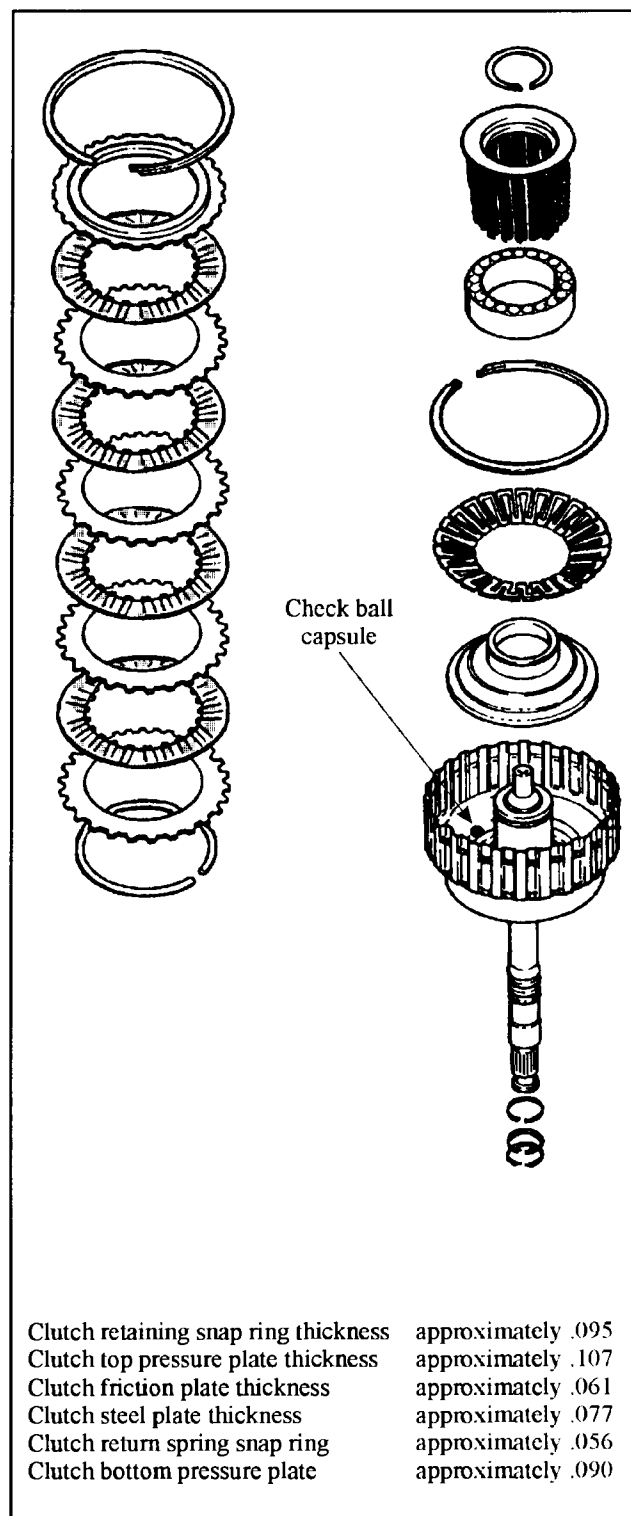

Figure 130
6. Install the clutch apply plate and one friction plate in the drum. Assemble the remaining friction plates and steels on the clutch hub in the following order: Pressure plate, friction, steel, friction, steel, friction, steel, and then lock the plastic support rings in the hub, and install the assembly in the drum (See Figure 130).
10. Inspect the K3 drum and insure that the check ball capsule is in good condition and not leaking Figure 130.
16. Stack the clutches in the drum as follows: friction, steel, friction, steel, friction, steel, friction, and the top pressure plate (See Figure 130).